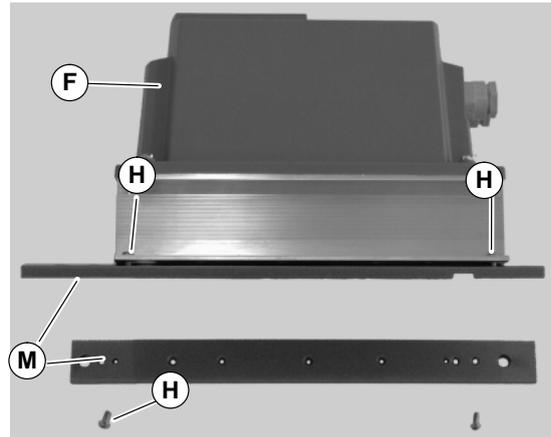

Figure 3
1. Attach mounting bars (M of Figure 3) to controller (F) with screws (H).